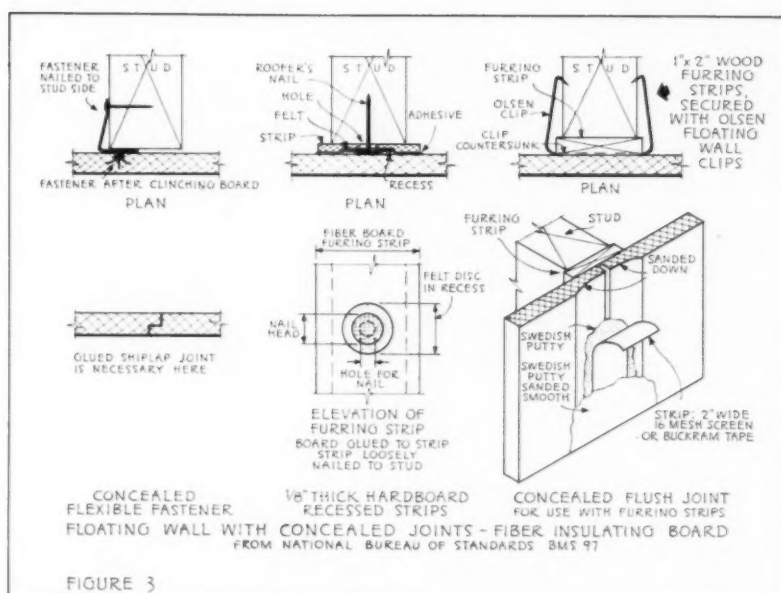

FIGURE 3
**Flexible fasteners:** Two methods of allowing free movement of the fiber-board were employed, and both proved successful. The *first method* consists of securing the board directly to the stud with a concealed, flexible fastener. This fastener was developed at the Bureau. Fasteners were nailed to studs. Boards were driven on fasteners (using blocks to prevent marring surface). This causes spreader to spread fastener and thus secure the board. (Figure 3). In this method the joints must be treated to give them sufficient strength to hold together while entire face moves. Glued shiplap, or taped joints proved satisfactory. Another method provided that furring strips be secured to studs with flexible fasteners and then the board is either cemented or nailed to these strips. Several fastening devices were used for the latter. (Figure 3). The *second method* used hard pressed fiber-board strips. One-eighth inch pressed fiber-board furring strips were nailed on parallel with studs. A nail hole larger than the nail and a felt cushion allowed the strip free play. The insulation board was cemented to the strip. (Figure 3). Wood strips were also used. One inch by two inch wood
furring strips were secured to the studs with Olsen floating wall clips. (The Patent and Licensing Corp., New York.) Then the insulation board was nailed to the furring strips. (Figure 3).